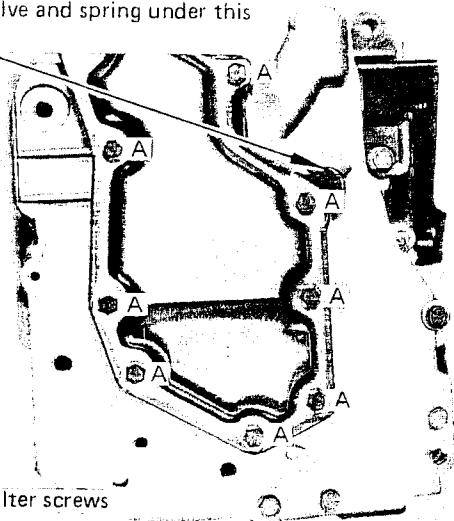
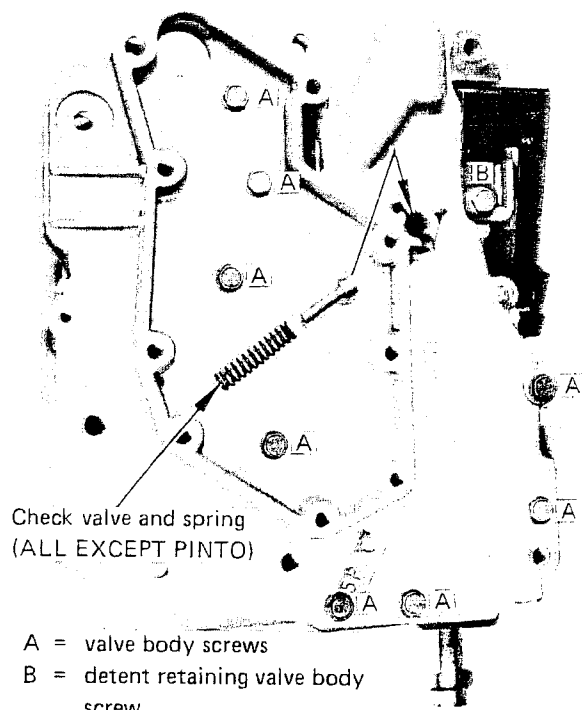
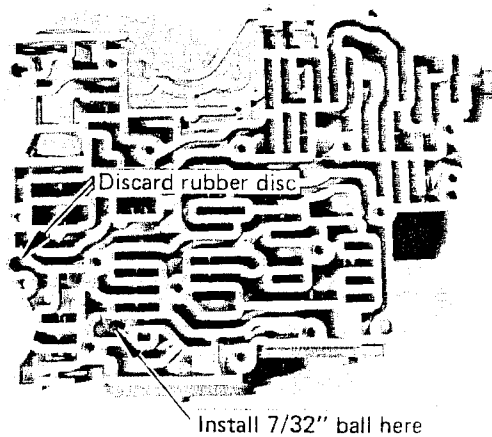

FIGURE 3 (ALL EXCEPT PINTO)
FIGURE 4
FIGURE 5 (ALL EXCEPT PINTO)
STEP 5. Turn the valve body over and remove the filter screws. (See Fig. 3 or 3A) Remove filter and set it aside. Note: These screws are long. All except Pinto will have a check valve and spring under a tab in the corner of the filter. Remove the valve and spring and set them aside. (See Fig. 4)
STEP 7. Lift the **transfer plate** assembly off the **casting**. There is one black plastic check ball (all except Pinto) or two check balls (Pinto only) and a flat black rubber disc in the **casting**. (See Fig. 5 or 5A) Remove these and set them aside. Set the **transfer plate** assembly aside.
STEP 10. Lay casting on bench with passages facing up. Install one 7/32" plastic ball in passage indicated in Figure 5 or 5A. Set casting aside.
STEP 15. Install transfer plate assembly onto casting. Make sure casting check ball is in place. (See Fig. 5 or 5A) Install eight medium length valve body bolts in place in position shown in Figure 4. Tighten finger tight. The casting and transfer plate should be flat against the separator plate. If it is not, there is an interference problem that must be corrected. Do not install detent roller spring yet.